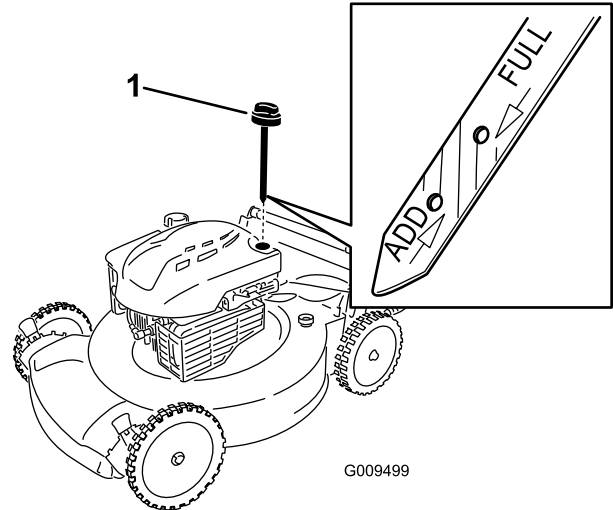

Figure 8
2. Remove the dipstick (Figure 8).
Note: If the oil level is below the **Add** mark on the dipstick, **slowly** pour a small amount of oil into the oil fill tube and repeat steps 3 through 5 until the oil level is at the **Full** mark on the dipstick (Figure 8).